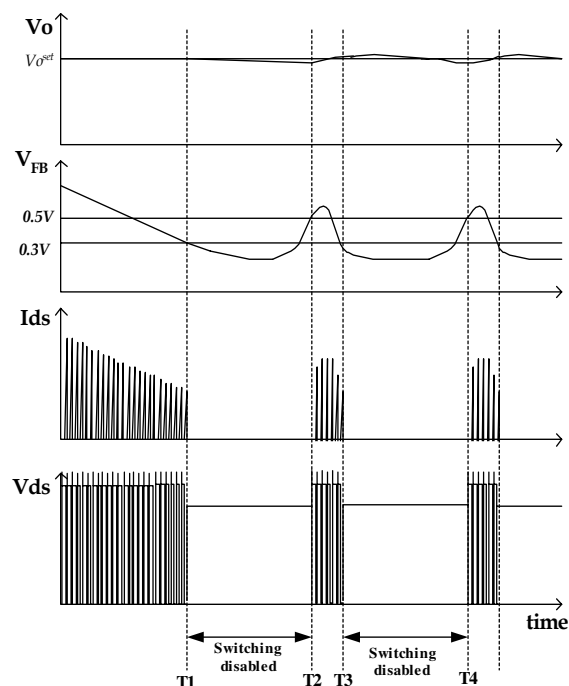

Figure 22. Waveforms of Burst Operation
6. Burst Operation: To minimize power dissipation in standby mode, the FSCM0565R enters into burst mode operation at light load condition. As the load decreases, the feedback voltage decreases. As shown in Figure 22, the device automatically enters into burst mode when the feedback voltage drops below V_{BL} (300mV). At this point switching stops and the output voltages start to drop at a rate dependent on standby current load. This causes the feedback